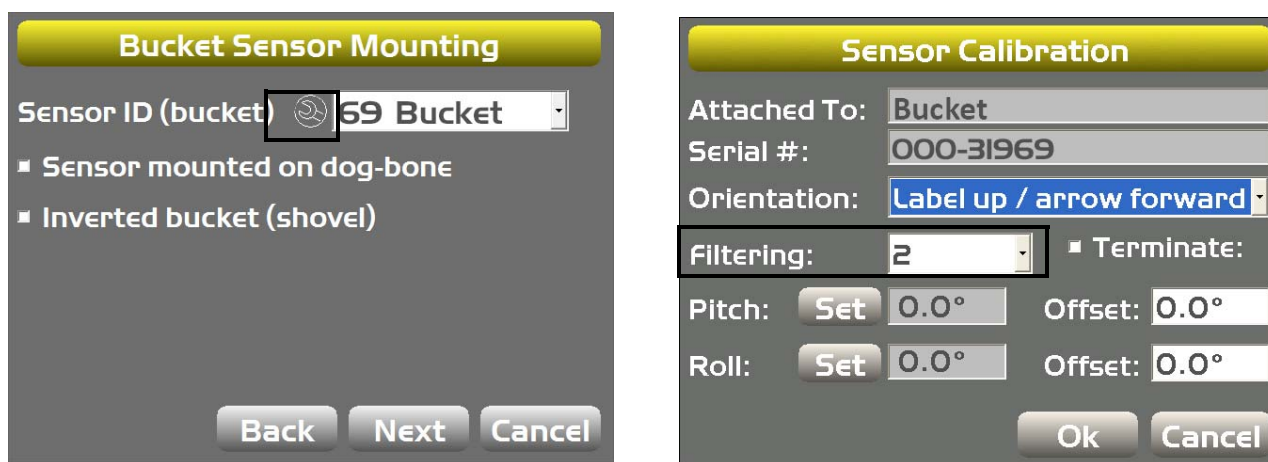

Figure 56: Set Filtering Level (Bucket Sensor)
2. Tap the **Wrench** icon next to **Sensor ID (bucket)** (Figure 56).
3. Select a filtering level and tap **OK** (Figure 56).